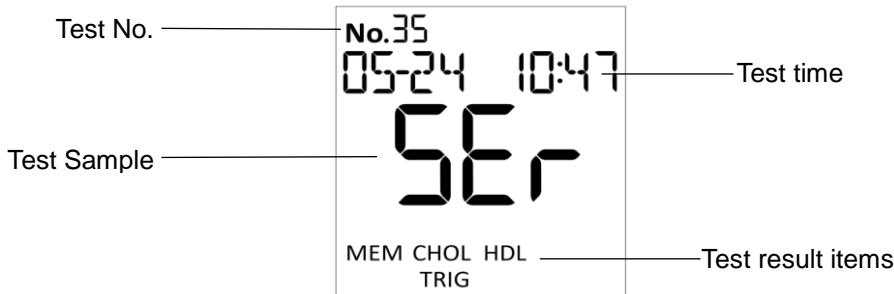

Fig 5.49
- Press power button to enter the report interface. (Ref Fig 5.49) The sample type, test time, test number and test result will be displayed on the interface.